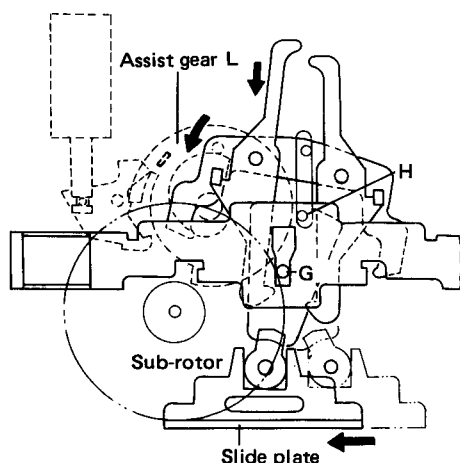

Fig. 1-21 DIRECTION operation 5
4. Since the H point on the coupling plate functions as a support point, as the G point is shifted to the left, the slide plate also moves to the left with the two plates above. This is shown in Fig. 1-21.